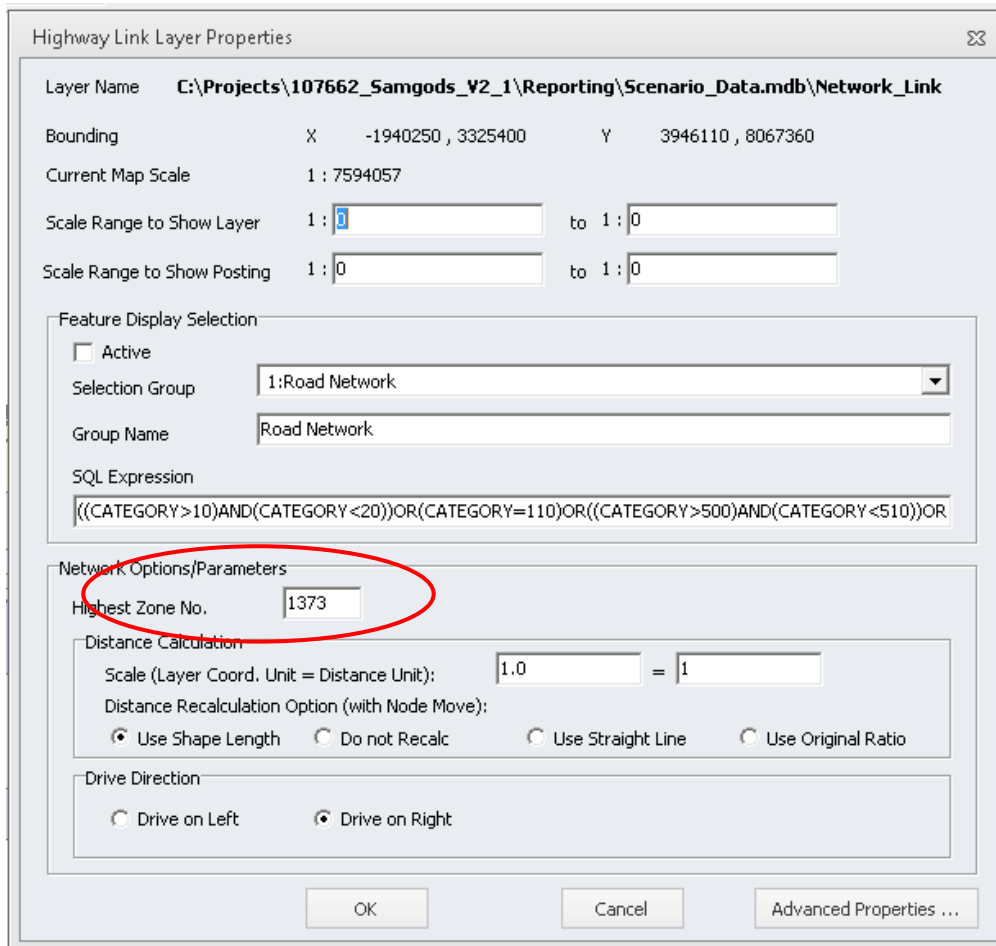

Figure 87 How to change the number of zones for the entire network
11) In order to change the number of zones for the entire network, right-click on the Network layer in the TOC and select “Properties”. Change the Highest Zone No. to the number of the just added terminal and click “OK”, see Figure 87.